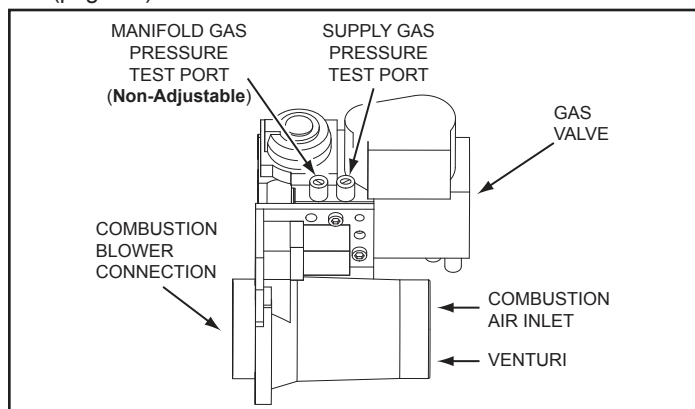
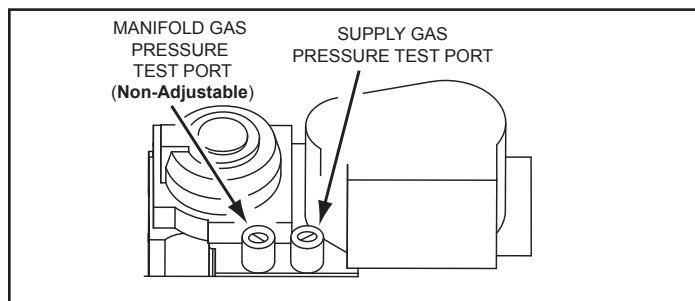

Figure 60. Gas Valve/Venturi Assembly Top View
Figure 61. Gas Valve Top Detail View
4. Wait five (5) minutes for any residual gas to clear.
5. Connect the manometer to the supply gas pressure port on the gas valve. See *Figure 60* (page 56) and *Figure 61* (page 56).
Water heaters covered by this manual have test ports for supply and manifold gas pressure readings on the gas valve. Using a small flat tip pocket screw driver - open the needle valve inside the supply gas pressure test port one full turn only; turn the needle valve screw counter-clockwise to open the valve. Slide the manometer sensing tube over the top of the test port. See *Figure 60* (page 56) and *Figure 61* (page 56).